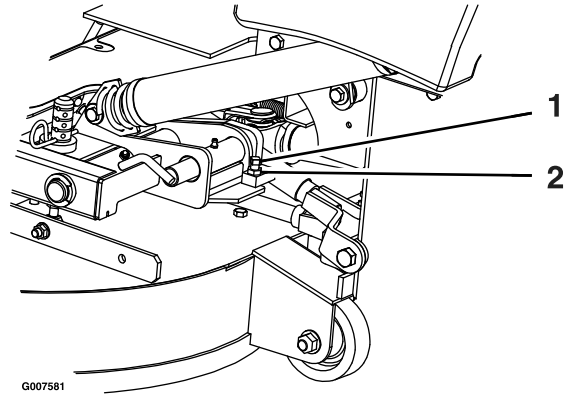

Figure 58
2. Loosen the jam nut and turn the stop screw clockwise until the locking pin is tight and cannot be rotated by hand (Figure 58).